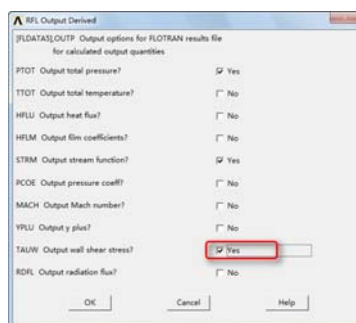

图 9-126 “RFL Output Derived”对话框
⑨依次选择 Main Menu → Solution → FLOTRAN Set Up → Additional Out → RFL Out Derived, 会弹出“RFL Output Derived”对话框,如图 9-126 所示,单击“TAUW Output wall shear stress?”后方框,使“No”状态变为“Yes”,单击“OK”按钮关闭该对话框。